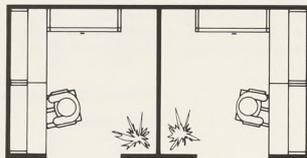

figure 7
- Face a speaker 180° from the nearest listener, usually the occupant of the next workstation (90° at a minimum). (See figure 7).